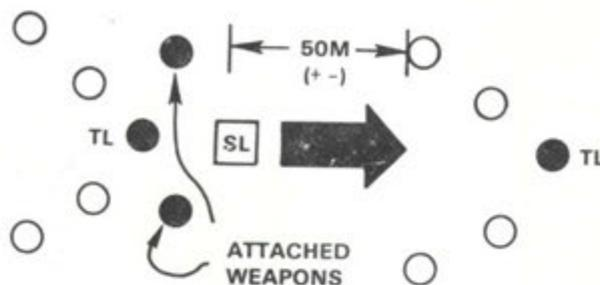

Figure 2. Traveling overwatch technique.
b. Use the **TRAVELING OVERWATCH** technique when chance of enemy contact is **possible**, but not expected. Caution is justified but speed is desirable. The trailing team drops behind the lead team about 50 meters and is prepared to support the lead fire team. If the lead fire team receives fire, the trailing team is far enough to the rear so it will probably not be suppressed by the same enemy fire, yet close enough to fire and/or maneuver in support of the lead team (figure 2).